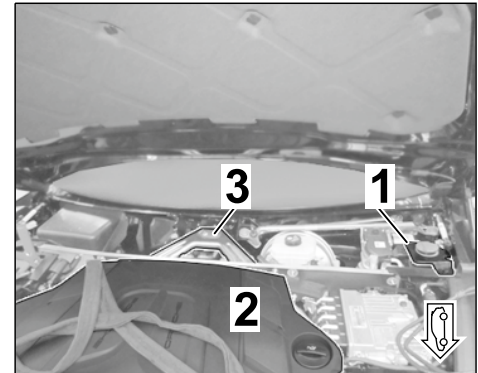

Figure 8
1.3 Expose plenum panel area (⇒ *Figure 8*)